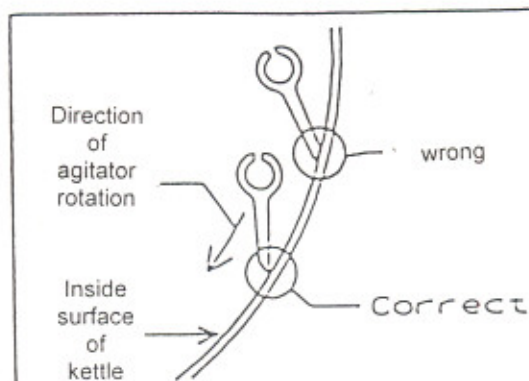

FIGURE 7: INSTALLATION OF GROEN SCRAPER FINGERS.
2. To replace agitator scraper fingers, remove the agitator (or raise the bridge if you have a tilting bridge unit) and pivot the scraper fingers until the gap in the back of the finger is aligned with the stop pin on the blade holder rod then slide the finger off the rod. When re-installing fingers make sure that the 1/4" wide face of the blade faces the center of the kettle (see Fig. 7)